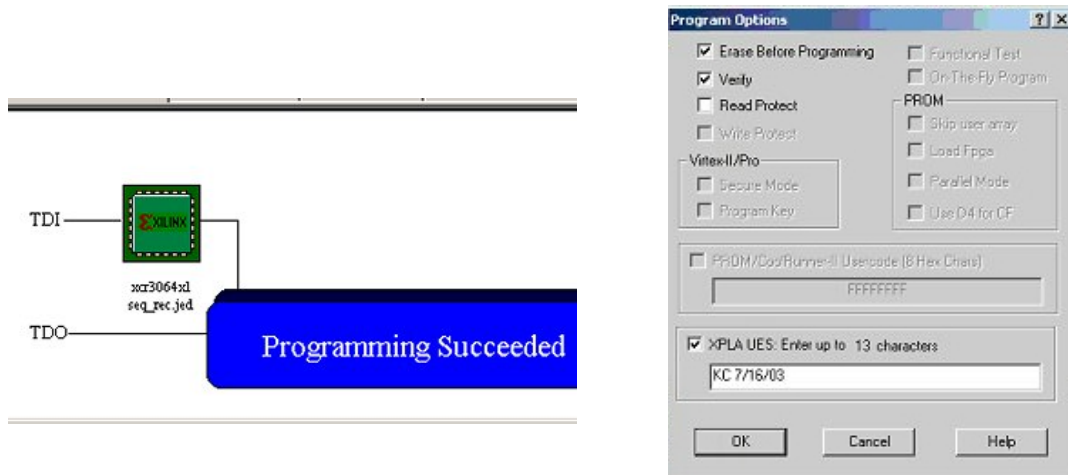

Figure 8; iMPACT window and options for CPLD configuration.
5. Programming the device; Browse for the file disp\_controller.jed in your project directory using the resulting window from previous step. Click **Ok**. Click on the Xilinx chip to highlight it and go to **Operations** → **Program**. Figure 8 shows the result of this operation and the options that must be selected. Click **Ok**.
4. Programming the device; browse for the file top\_counter.jed in your project directory using the resulting window from previous step. Click **Ok**. Click on the Xilinx chip to highlight it and go to **Operations** → **Program**. Figure 8 shows the result of this operation and the options that must be selected. Click **Ok**.